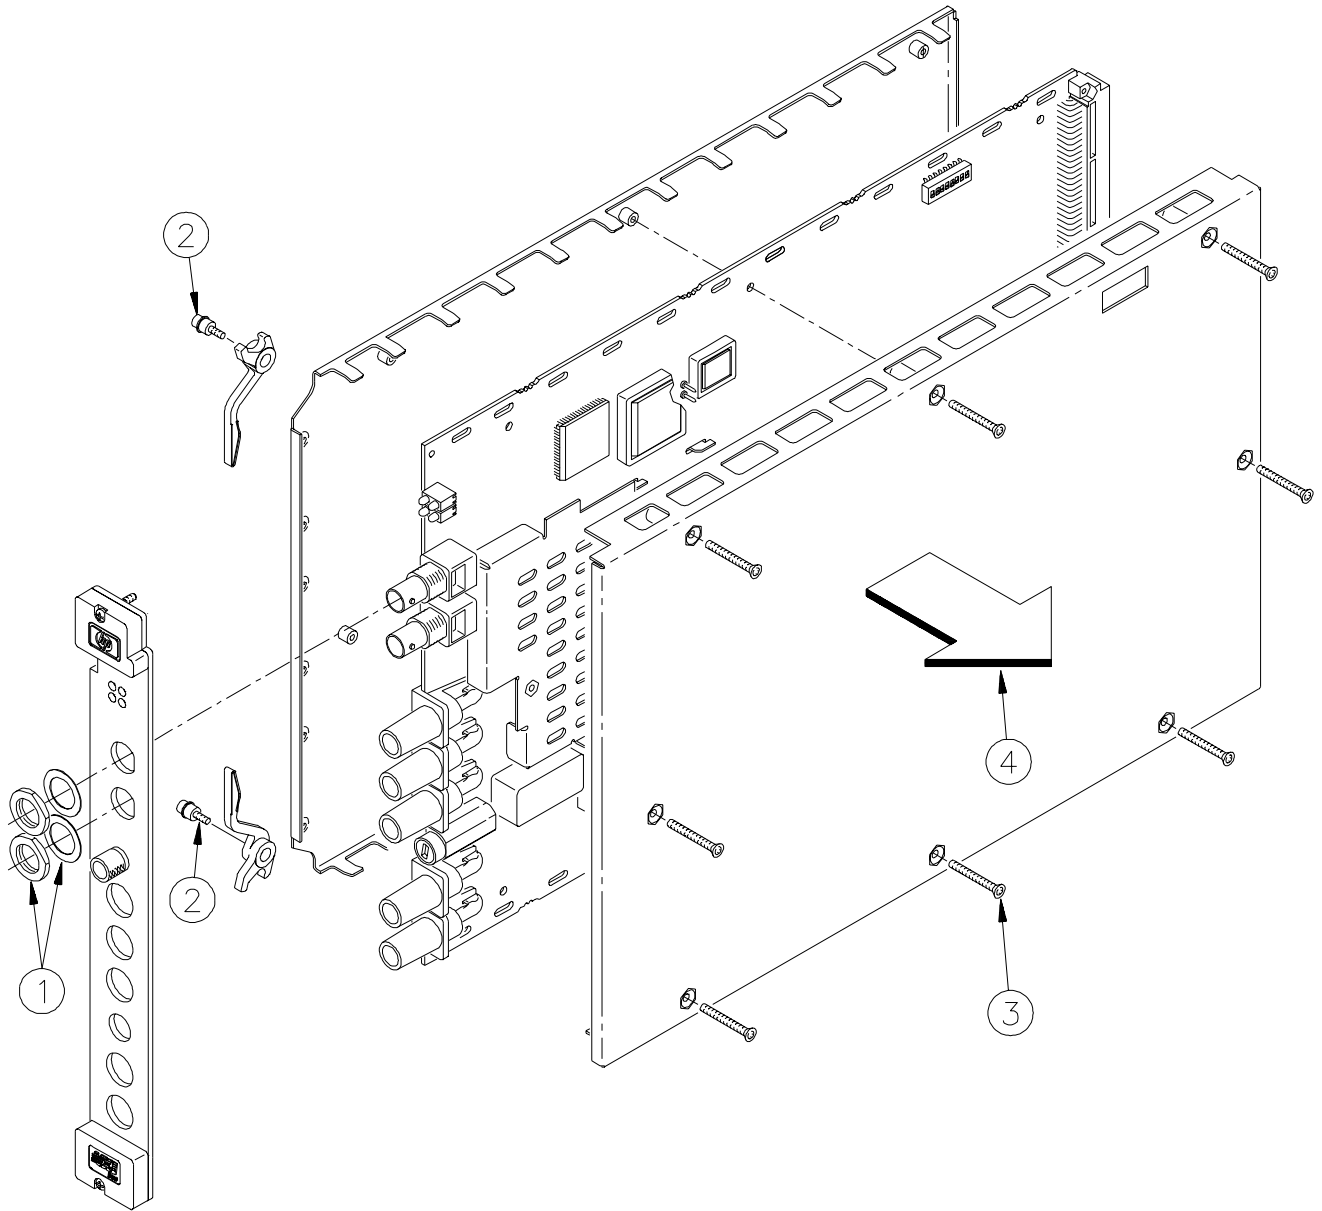

Figure 8-2. Disassembly/Reassembly of Agilent E1412A.
Refer to Figure 8-2 and use the following steps to disassemble the Agilent E1412A. Steps 1, 2, 3 and 4 are called out on the diagram.
Refer to Figure 8-2 and use the following steps to reassemble the Agilent E1412A:
- Step 1** Disassemble the module according to Figure 8-2 and the associated procedure.
- 1** Disassemble the module according to Figure 8-2 and the associated procedure.
- ① Disassemble the module according to Figure 8-2 and the associated procedure.